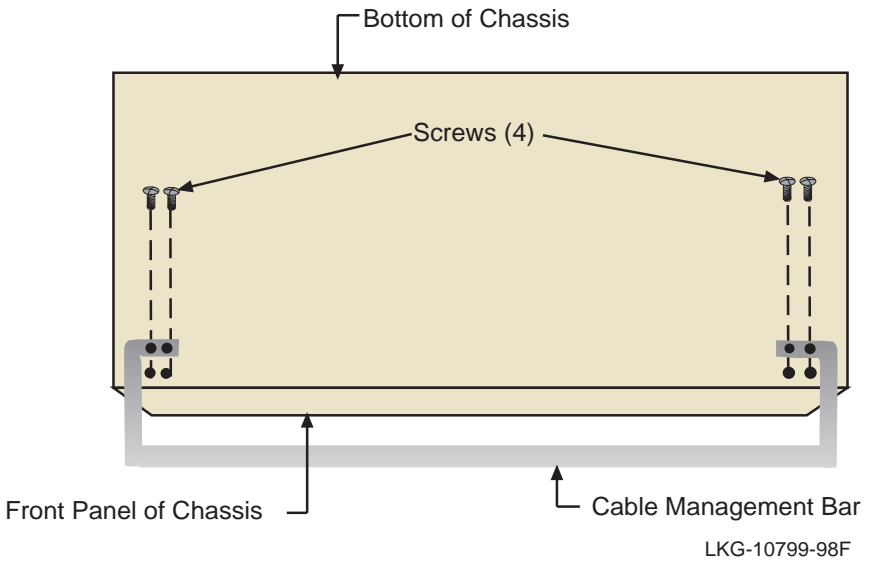

Figure 3-1 Installing the Cable Management Bar
2. Refer to Figure 3-1. Line up the two holes on each side of the cable management bar with the two holes located underneath the DLM6C-AA, near the front of the chassis.